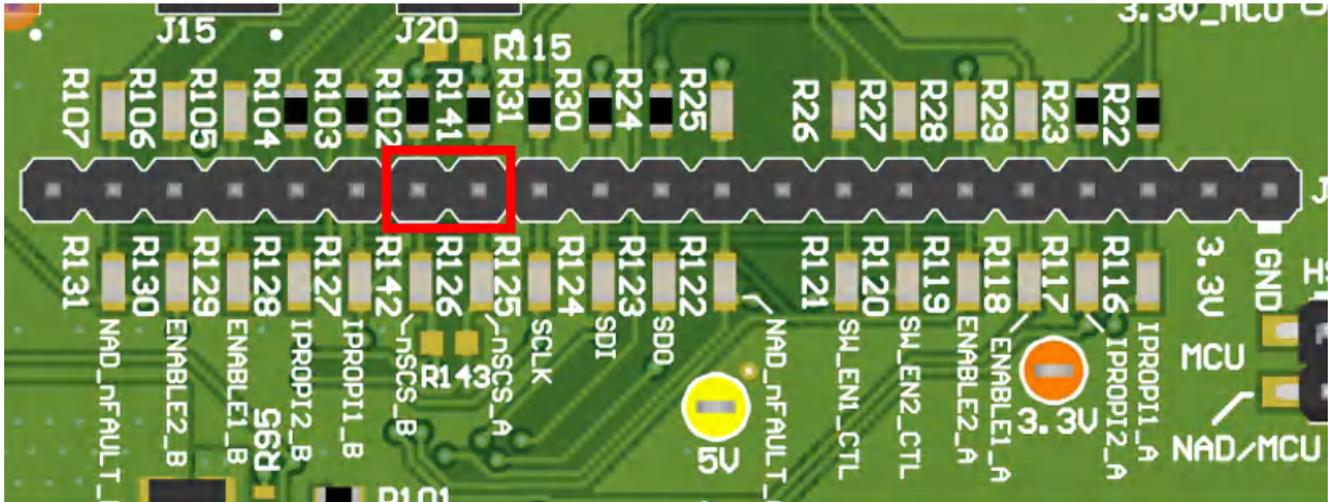

Figure 6-3. Shunt Placement Location for Addressable SPI
- The nSCS_A and nSCS_B signals must be shorted in the EVM. Place a shunt across the nSCS_A and nSCS_B test points in J4 as shown in Figure 6-3.